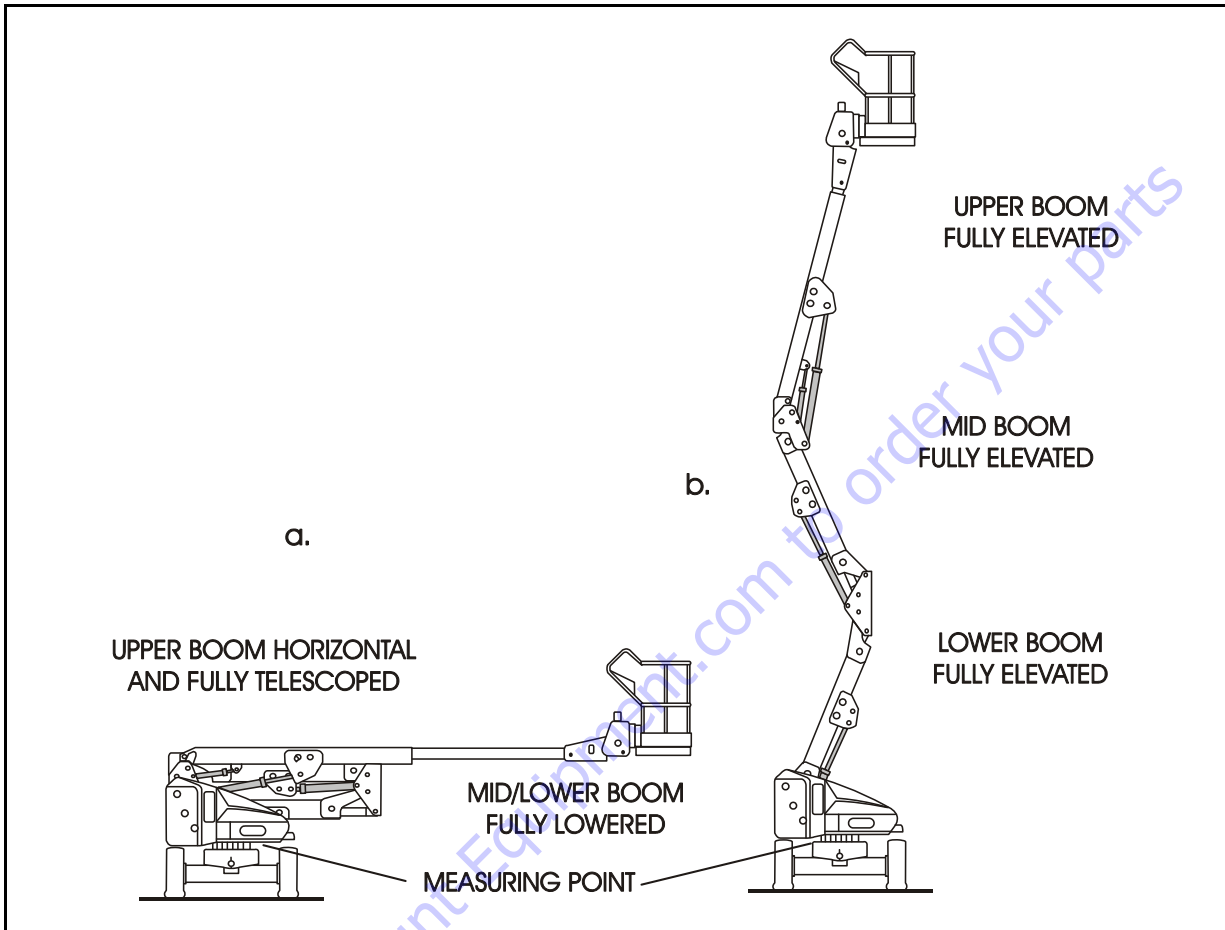
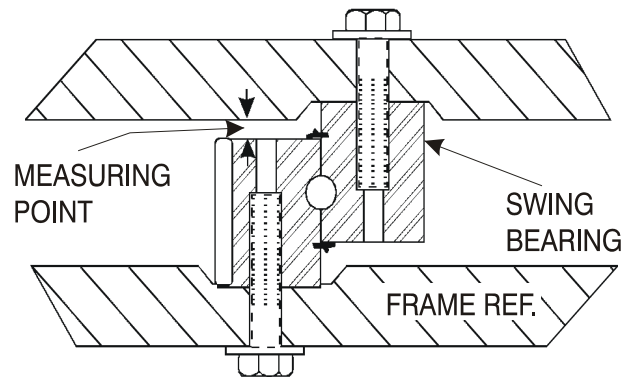

Figure 3-22. Swing Bearing Tolerance Boom Placement
Figure 3-23. Swing Bearing Tolerance Measuring Point
- b. At the positions indicated on Figure 3-22. try and insert the 0.0015" feeler gauge between the bolt head and hardened washer at the arrow indicated position.
extended and Mid/Lower Boom stowed, (See Figure 3-22.), using a magnetic base dial indicator, measure and record the distance between the swing bearing and turntable. (See Figure 3-23.)
2. At the same point, with the boom positioned over the side of the machine, the Upper Boom fully elevated and the Mid/Lower Boom fully elevated, (See Figure 3-22.) using a magnetic base dial indicator, measure and record the distance between the swing bearing and
turntable (See Figure 3-23.).